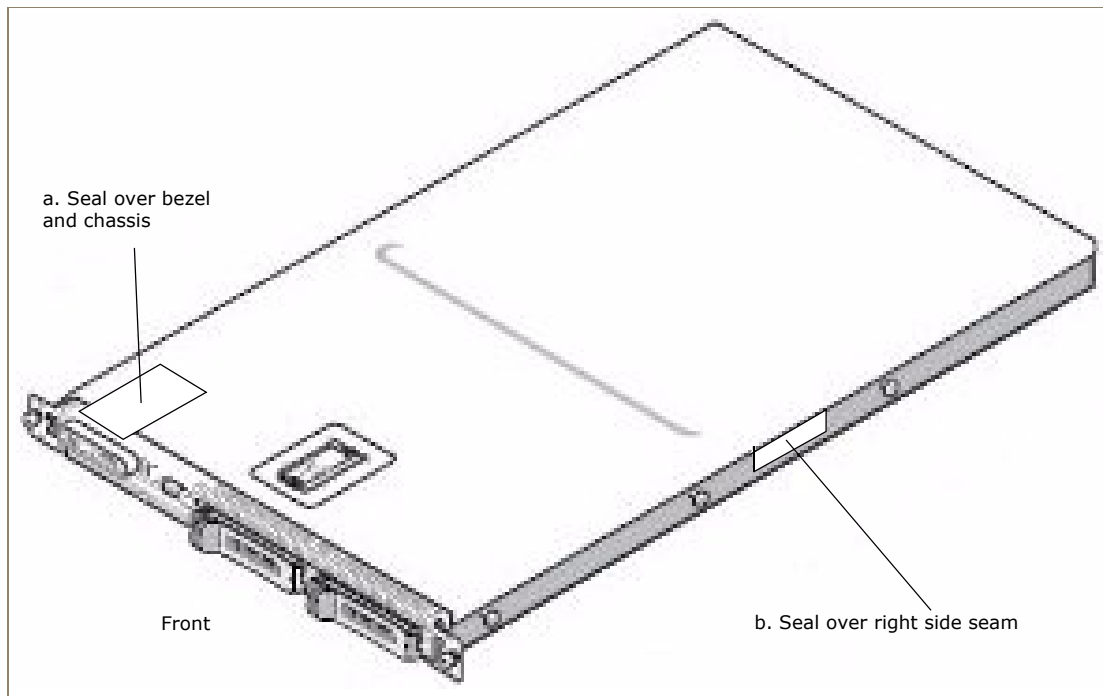

Figure 2-6 Top of model 1100E (bezel not shown)
- 12 Attach tamper-evident seals to the chassis (see Figure 2-6).